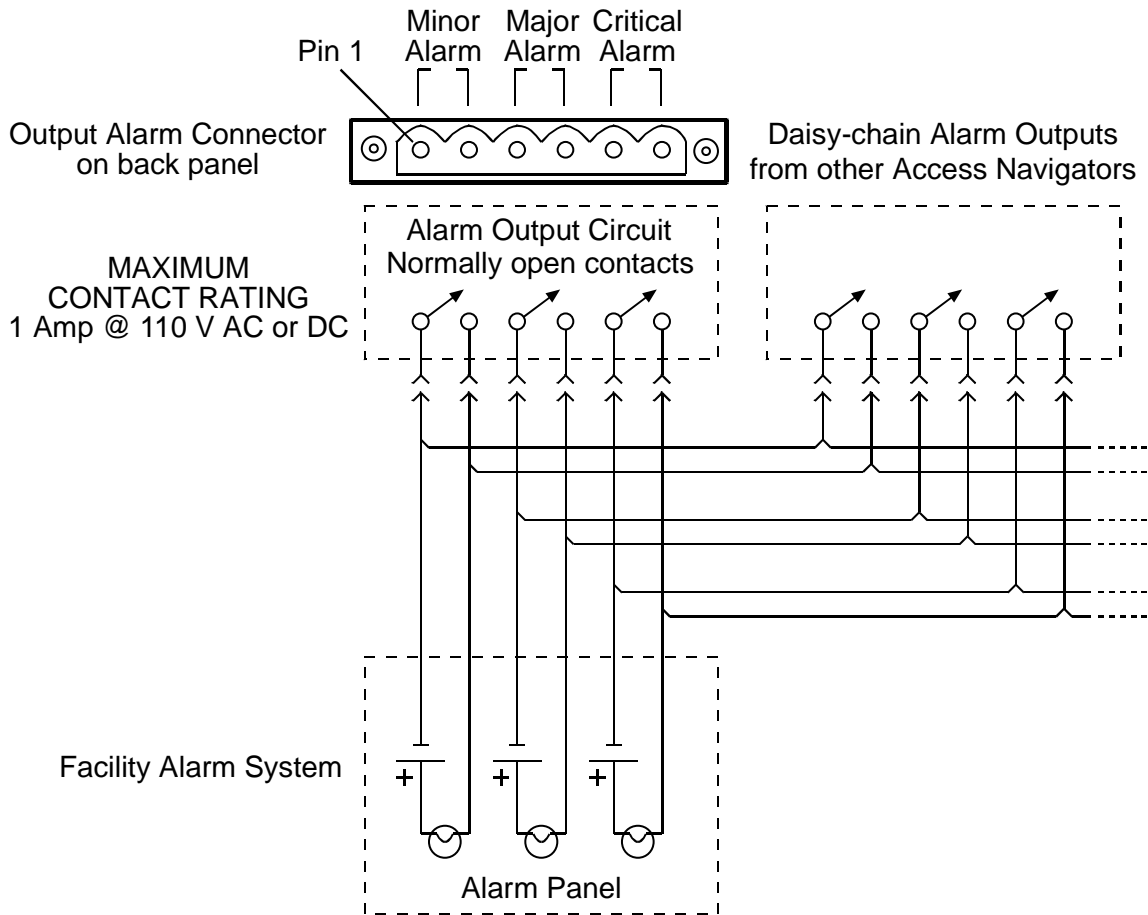
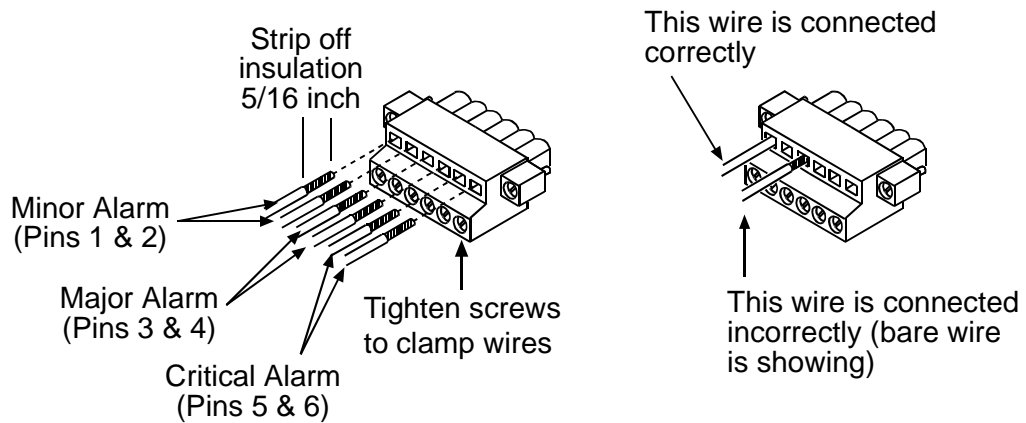

Figure 6-16. Typical Connections to Facility Alarm System
Figure 6-17. Alarm Output Connector Wiring
NOTE: Figure 6-16 shows the alarm output connector wiring to a typical alarm interface circuit. The alarm relay output provides normally open contacts. There is no voltage present on these contacts until they are energized by the external alarm system.
2. Refer Figure 6-16 and Figure 6-17 when wiring connector to facility alarm system.
3. Use volt-ohm meter to ensure that **no voltage** is present on any of the wires going to the facility alarm system (see Figure 6-16).
4. Strip the wires so that 5/16 inch of bare wire is exposed (see Figure 6-17).
5. Orient the alarm output connector as shown in Figure 6-17.